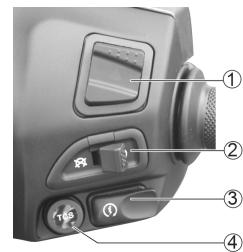

Fig6
Warning light Switch ① (Fig 6)
Flameout switch ② (Fig 6)
Electric starting switch ③(Fig 6)
TCS ④ (Fig 6)